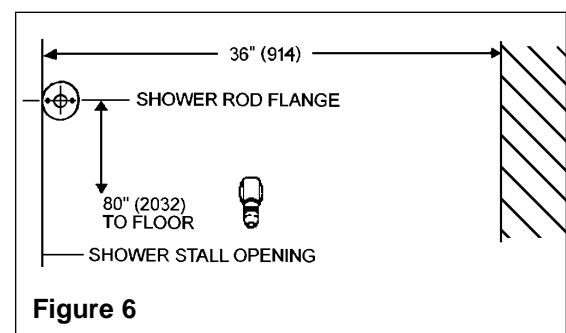

Figure 6
2. Mount one shower rod flange 80" (2032mm) from the floor as close to the opening of shower stall as possible with two #10-13 x 2" Phillips-head screws provided (see Figure 6).